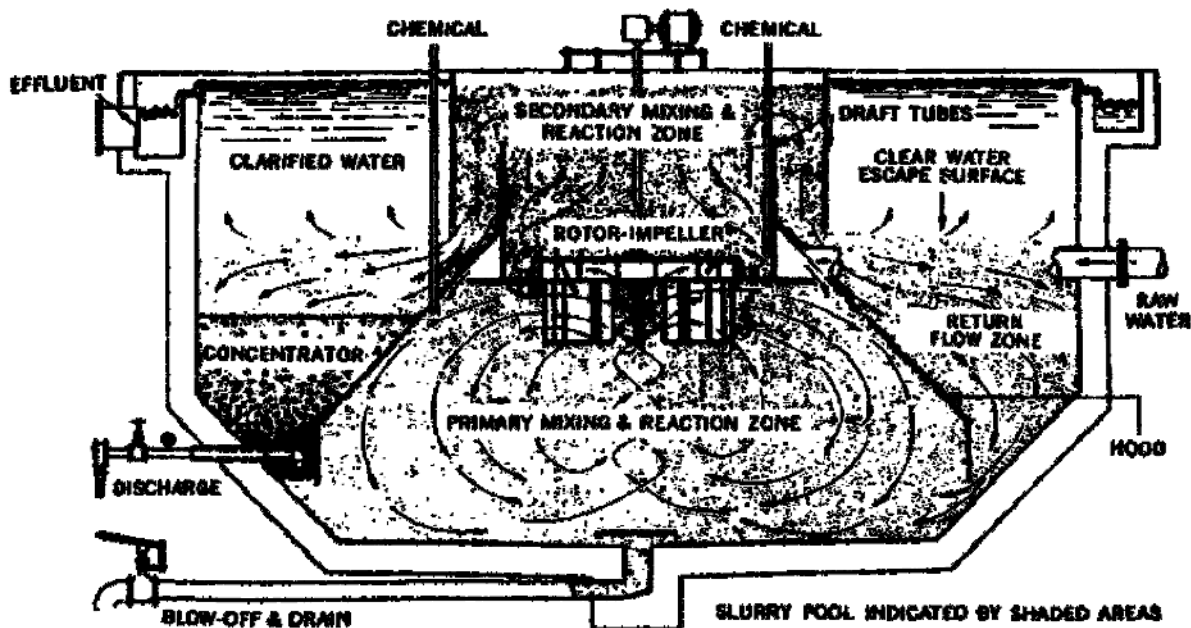

Figure 71. Accelator.
16. The Accelator, shown in figure 71, is a suspended solid clarifier. Precipitates which are formed are kept in motion by a combination of mechanical agitation and hydraulic flow. Velocity of waterflow through the system is controlled to keep precipitates in suspension at a level where water passes through them. The accumulated